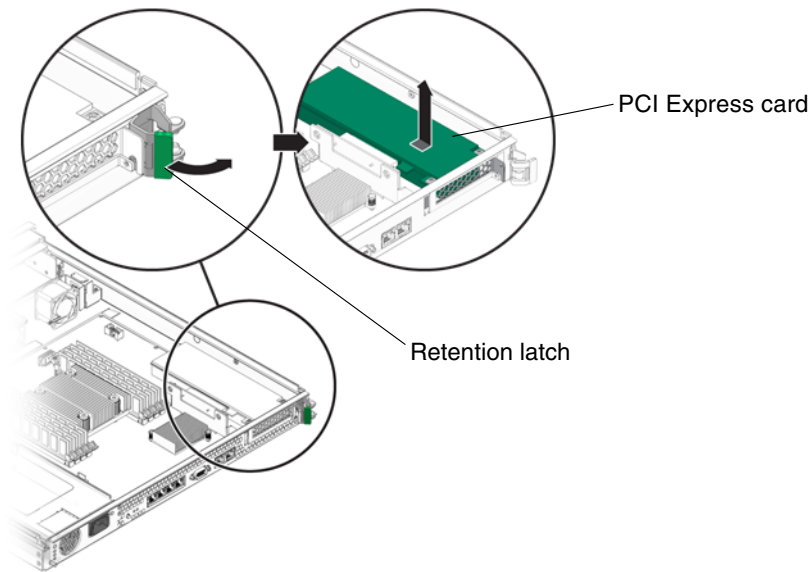

FIGURE 3-4 Releasing the PCI Express Card Retention Latch
3. On the rear of the chassis, engage the retention latch (FIGURE 3-4) to secure the card to the chassis.